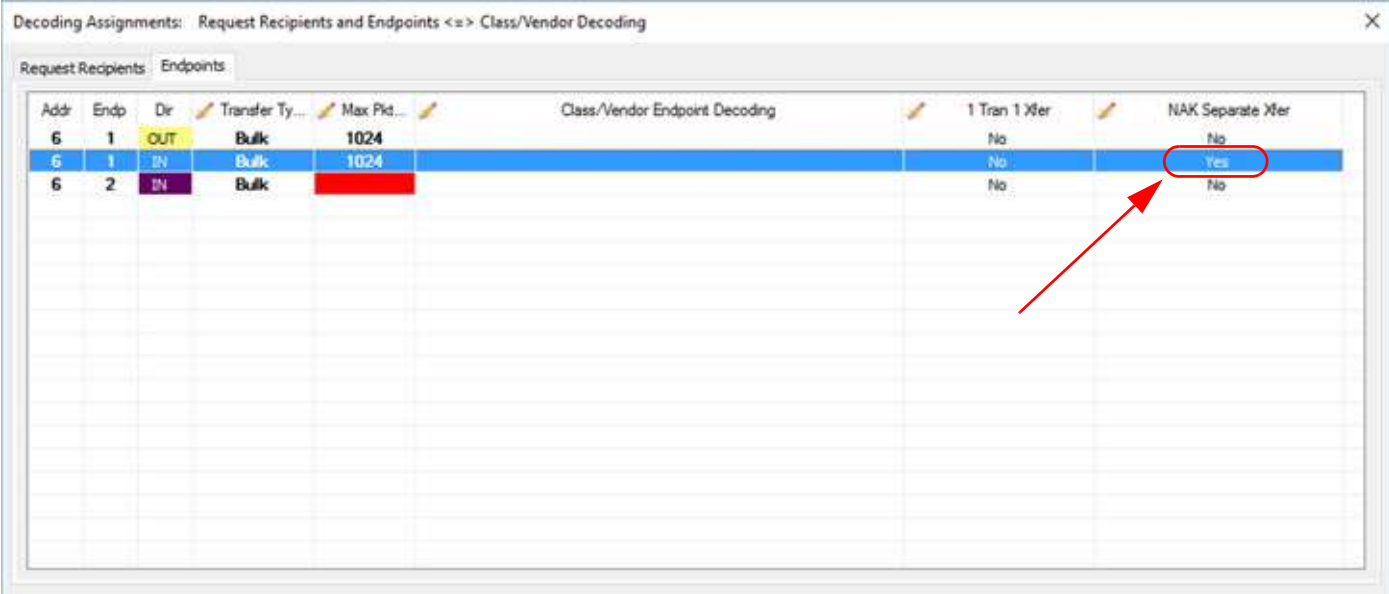
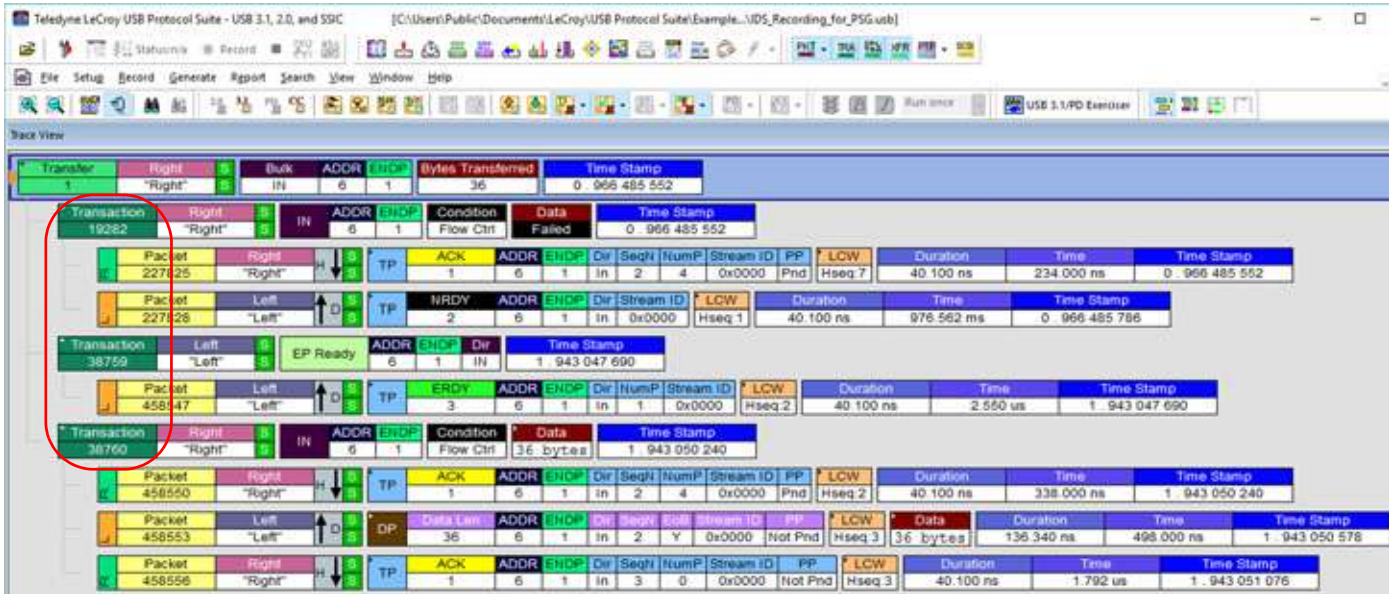
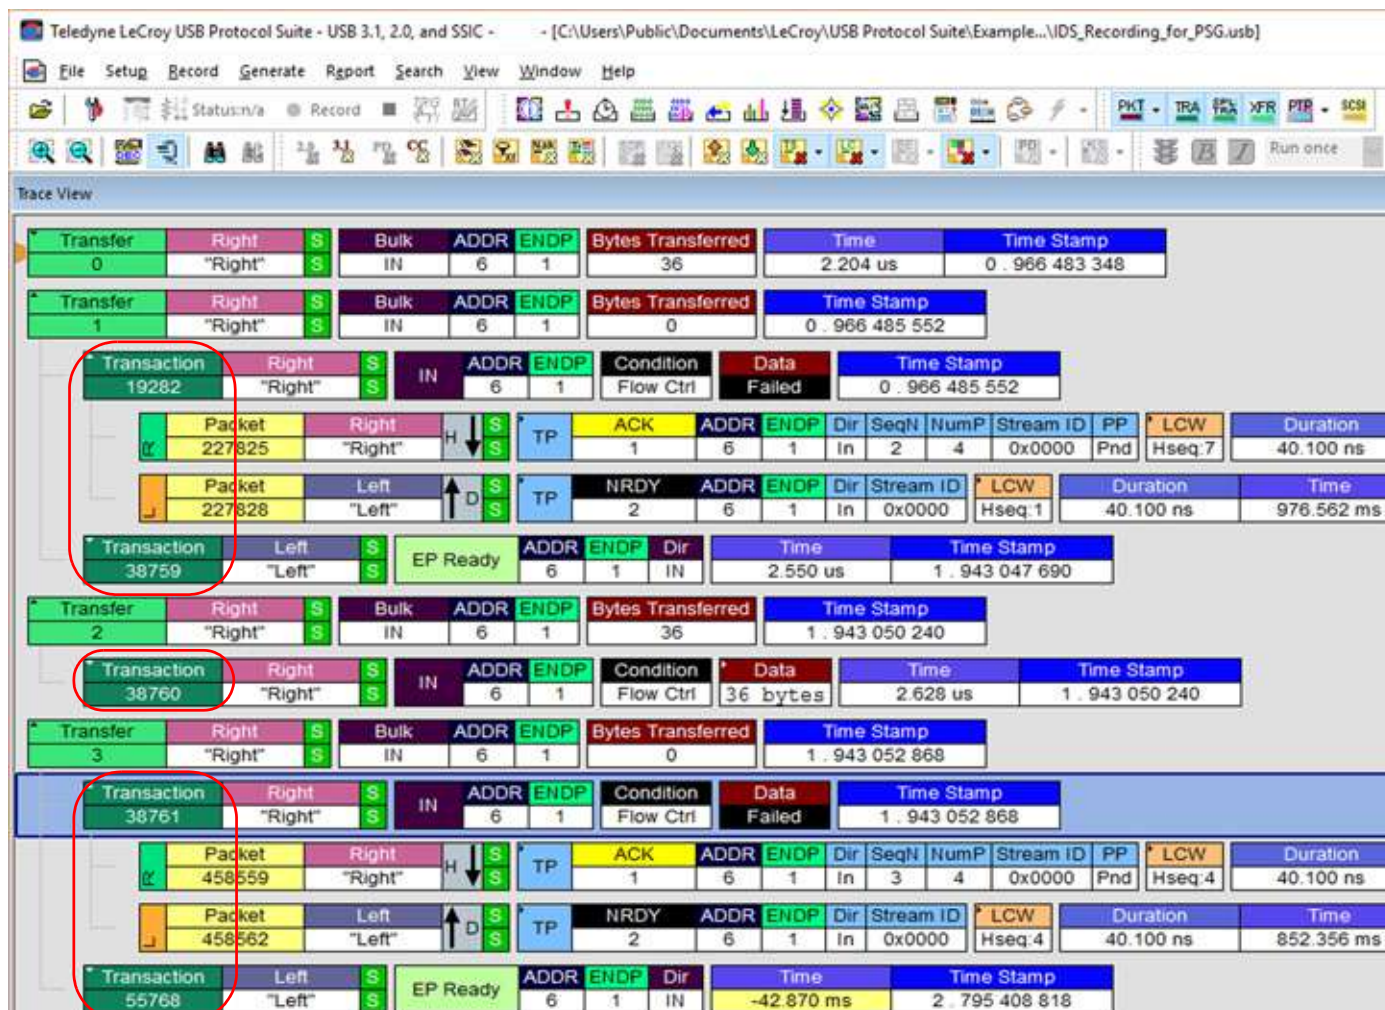

Figure 9.13: Decoding Assignments: NAK Separated Transfer
Figure 9.14: Trace View: Several Transactions per Transfer
Figure 9.15: Trace View: NAK Separated Transfers
- ☐ NAK Separated Transfers (see Figure 9.13 on page 547)
If you select NAK Separate Transfer (see Figure 9.13) the Trace Data Traffic will be converted from several (3) Transactions per Transfer (see Figure 9.14) to NAK Separate Transfer (see Figure 9.15 on page 548).